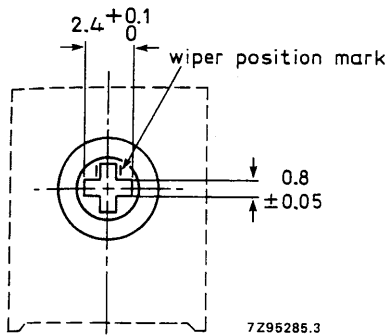

Fig. 3 Cross slot, non-insulated wiper for vertical and horizontal versions; straight pins only.
1. For details of available slots (cross, hexagonal, insulated or non-insulated wiper), see Figs 3, 4 and 5.